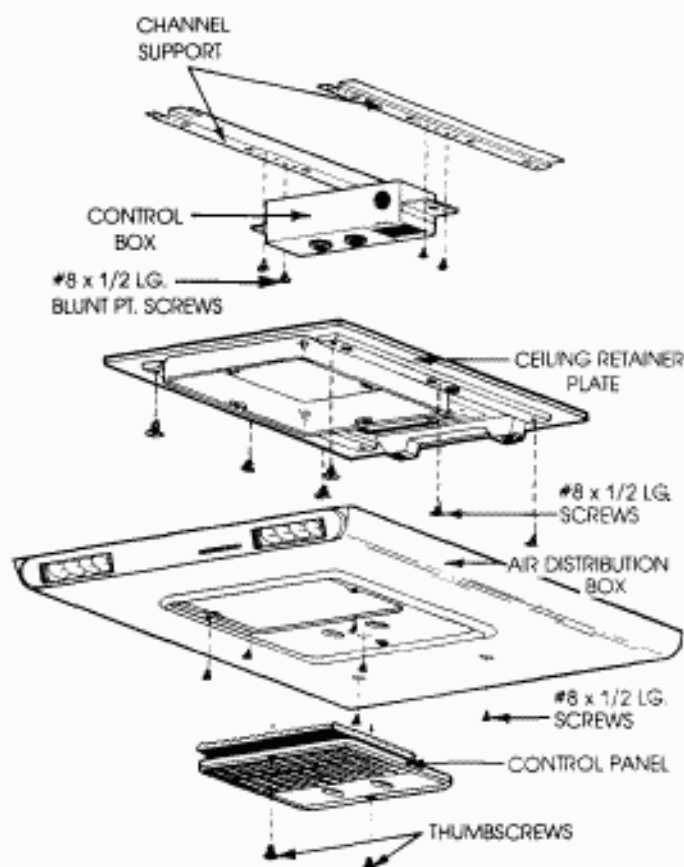

FIG. 1
To mount roof gasket (See Fig. 1), peel off protective paper from the adhesive side of gasket. Center gasket over roof opening, adhesive side down. Peel off protective paper on support gasket and place this strip 6" back from mounting gasket towards rear of coach (See Fig. 1).
Remove control panel from air distribution box. Disassemble air box housing by removing (6) #8 x 1/2" Lg. screws. Slide thermobulb out from holder and remove (6) #8 x 1/2" Lg. screws holding ceiling plate in place. Disassemble control box from channel supports by removing (4) #8 x 1/2" Lg. blunt point screws (See Fig. 1). Let control box hang down inside coach.